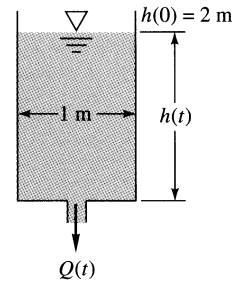

Fig. P6.145
**6.145** The 1-m-diameter tank in Fig. P6.145 is initially filled with gasoline at 20°C. There is a 2-cm-diameter orifice in the bottom. If the orifice is suddenly opened, estimate the time for the fluid level  $h(t)$  to drop from 2.0 to 1.6 meters.